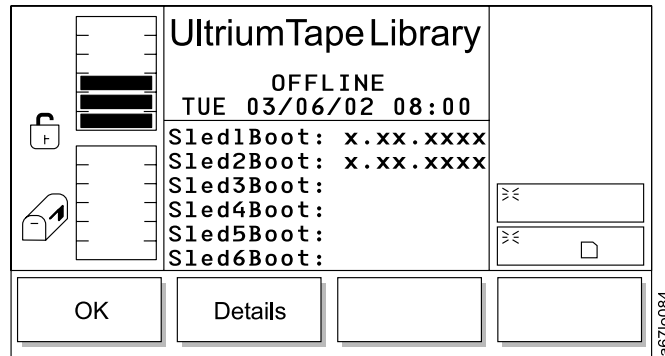

Figure 200. Detail Dialog (tertiary screen)
- If **Details** is selected, the Detail Dialog (tertiary screen) displays (see Figure 200 on page 153).